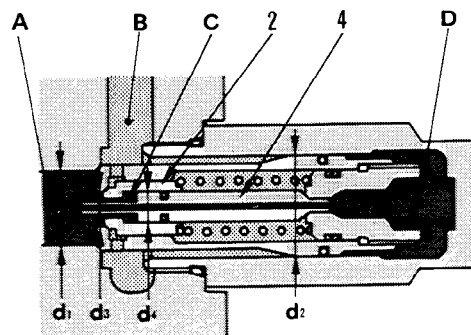

Fig. 1
- Port A is the cylinder circuit and port B is the drain circuit. The oil pressure in port A flows to port D through a hole in the pilot piston (4). It also flows to port C through an orifice consisting of the main valve and the pilot piston (4). The pilot piston (4) is secured to the suction valve by lock nut. The diameter of the cross section (cross-sectional area) gives a relationship of $d_2 > d_1 > d_3 > d_4$. (Fig. 1)